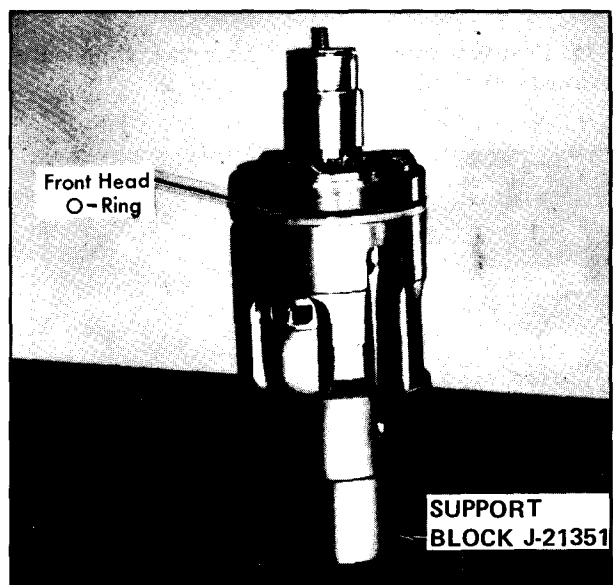

Figure 101—Front Head O-Ring Installed
8. Generously lubricate new O-ring and angled groove at lower edge of front head casting with 525 viscosity refrigerant oil and install new O-ring into groove (figure 101).